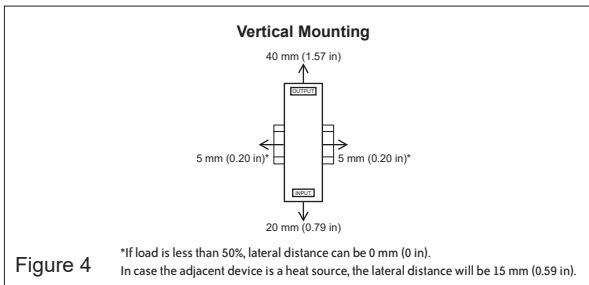

Figure 4
- To guarantee sufficient convection cooling, please keep a distance of 40 mm [1.57 in] above and 20 mm [0.79 in] below the device as well as a lateral distance of 5 mm [0.20 in] to other units. If load is less than 50%, lateral distance can be 0 mm [0 in]. In case the adjacent device is a heat source, the lateral distance will be 15 mm [0.59 in]. See Fig 4.